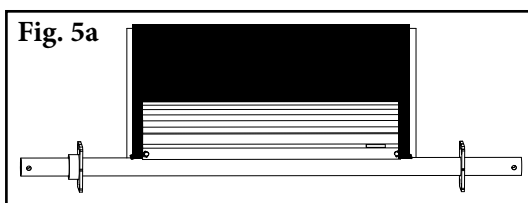
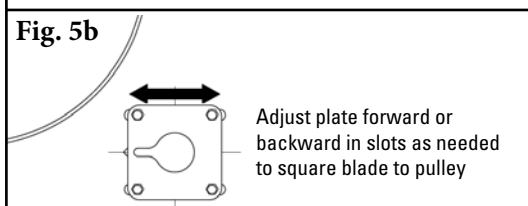

Fig. 5a
Fig. 5b
6. **Reinstall blade.** Reinstall blade with both blade pins. Center the blade on the belt. Rotate the blade up to the belt and check to insure that the blade is square to the pulley face (Fig. 5a). If not, loosen a mounting plate on one side and adjust the plate forward or backward to square the blade to the pulley, and retighten the bolts (Fig. 5b).